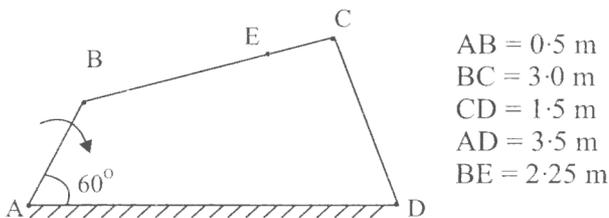

Fig. 2
- (f) A pin jointed 4 bar mechanism is shown in Fig. 2. The link AB rotates at 20 rpm and angle $BAD = 60^\circ$. Find :